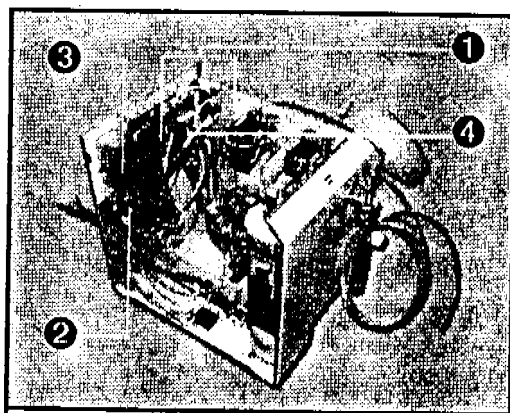

Figure 4.3.1 Electronics Area
4. Remove the clear, plastic electronics/plumbing divider (❶, Figure 4.3.1):